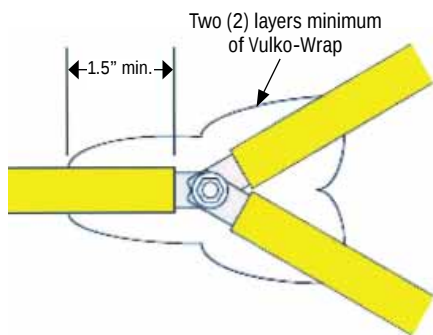

FIGURE 2a "Y" Splice (top view)
2. After completing the step above, start to wrap the Vulko-Wrap around the "Y" or "V" splice making sure to meet the minimum 1.5 inch clearance as shown in **FIGURES 2a, 2b or 3**. Again, the first layer should